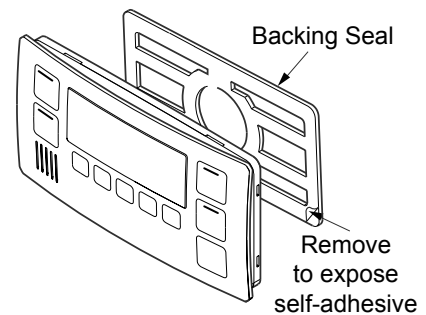

Fig.3
4. Affix the double sided self-adhesive seal to the back of the controller (Fig.3).